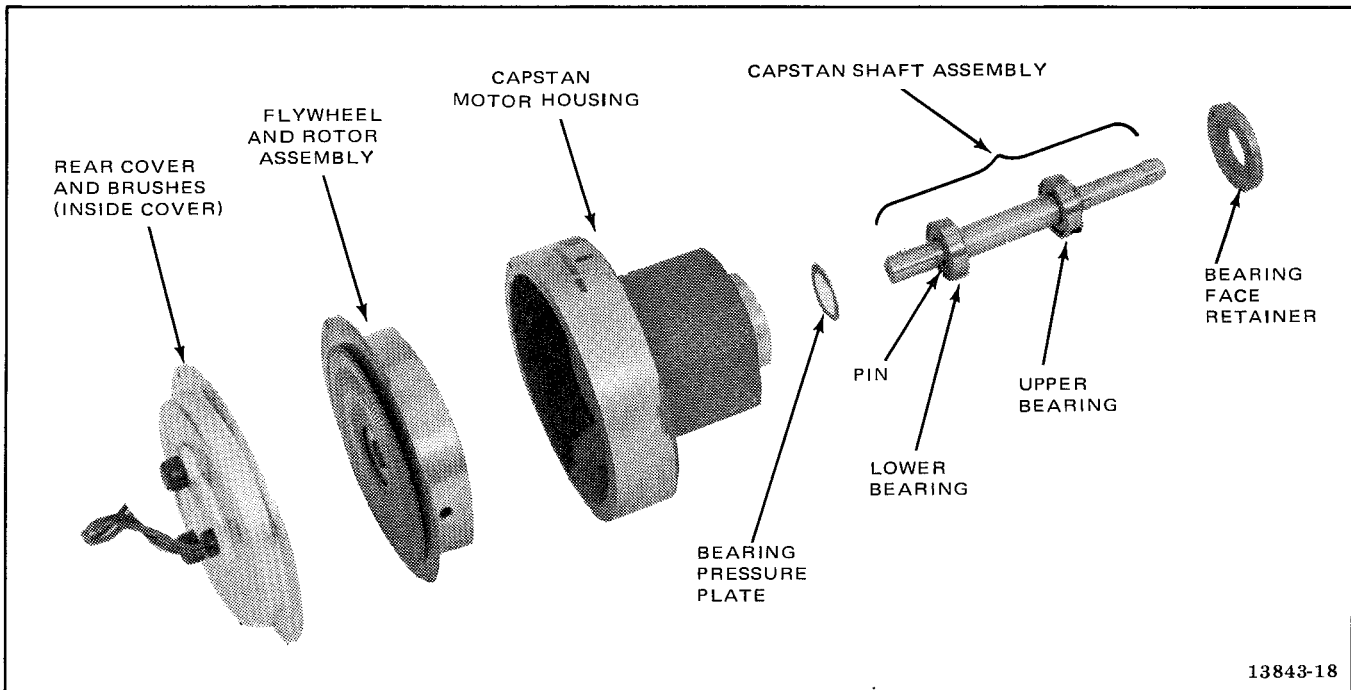
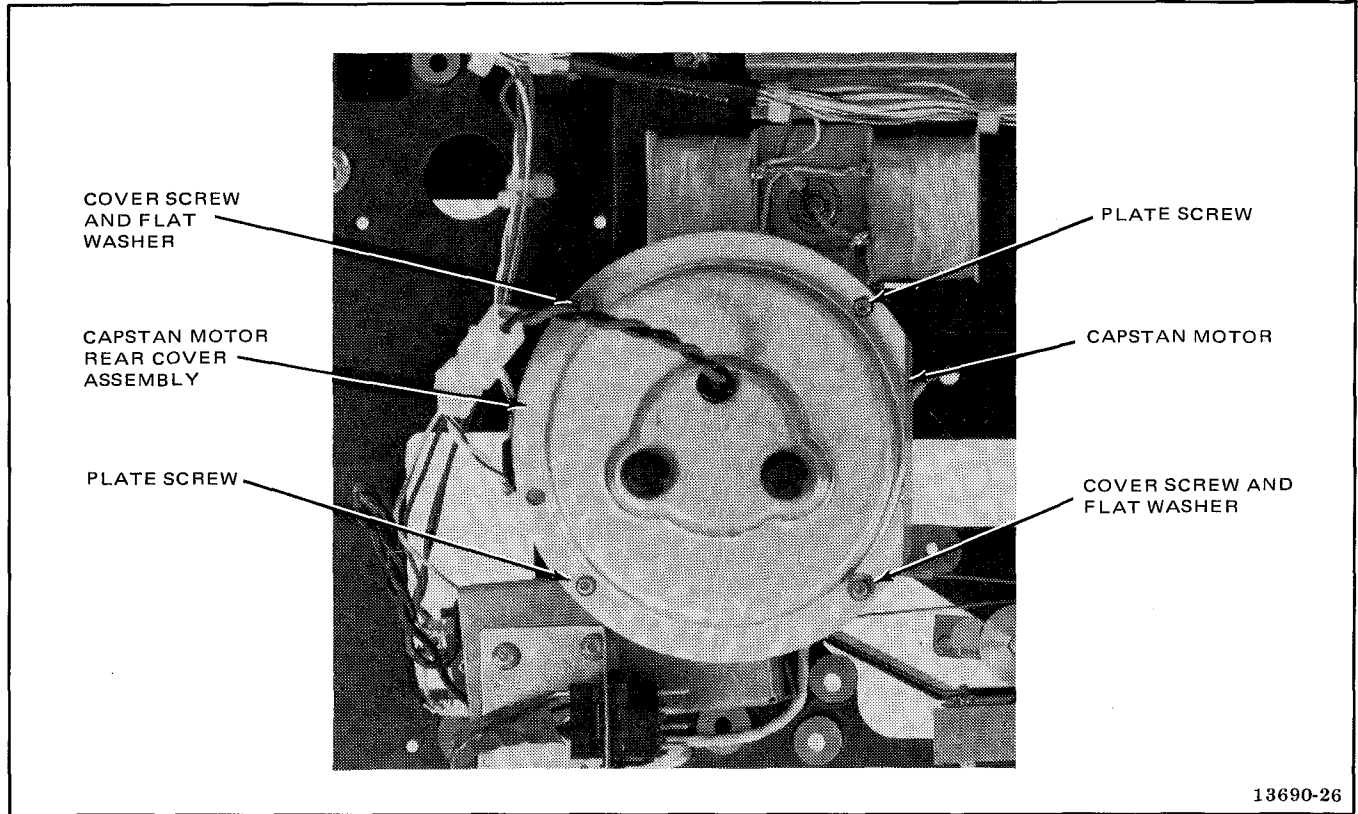

Figure 5-46. Exploded View of Capstan Motor
Figure 5-49. Rear View of Capstan Motor Assembly
Besides the complete capstan motor, component parts that can be replaced are the motor brushes, flywheel and rotor assembly, capstan shaft assembly, and capstan motor bearings (Figure 5-46). It is not necessary to remove the complete motor to replace any of these component parts. The brushes are located within the rear cover. Note that the flywheel and rotor are not separable parts and therefore must be replaced as a unit.
- 5-96. *Flywheel and Rotor.* Use the following procedure to replace the flywheel and rotor assembly (Figure 5-46).
2. Remove the two hex-socket plate screws (Figure 5-49) that secure the 1/16-inch thick plate to the capstan housing (Figure 5-46).
7. Check that the bearing pressure plate shown in Figure 5-46 (looks like a large washer) is either resting on the springs or is held by grease film to the lower bearing on the capstan shaft assembly.
2. Prior to removing the lower bearing (Figure 5-46), remove the 0.062 flywheel drive pin from the capstan shaft.
6. If the lower bearing (Figure 5-46) was replaced, reinstall the 0.062 pin removed in step 2. Use an adhesive such as Loctite to secure pin. Be sure pin is fully bottomed in hole drilled in side of shaft.